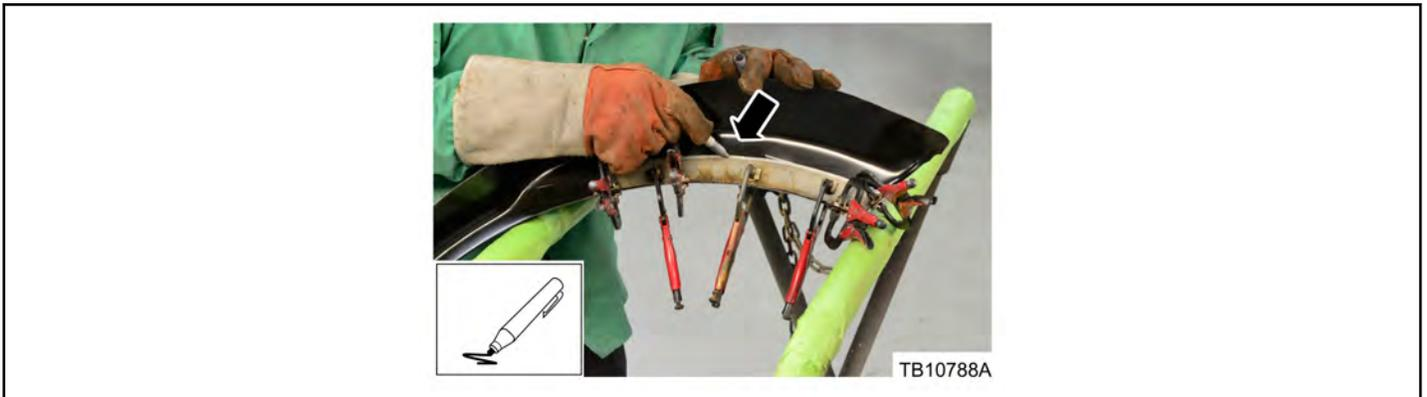

Figure 6 - Article 15-0157
15. Using a marker, trace the outline of the cutoff panel section onto the new panel. (Figure 6)